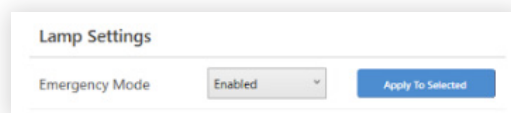

fig. 39
- 5 **Set Emergency Mode to Enabled and click Apply to Selected.** This takes place in the **Lamp Settings** pane (see fig. 39). Clicking **Apply to Selected** will automatically publish emergency mode to the selected lights.